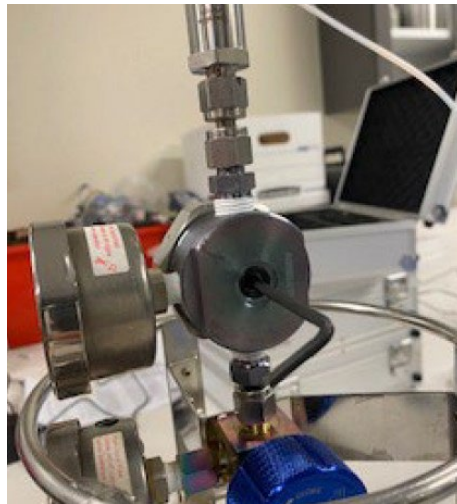

Figure 15. Adjusting the Flow on a Regulator
4.4.2.4 If the flow is not within this range, the flow needs to be adjusted, to do this you will need to look on the back side of the regulator. Take the cap off with an Allen wrench. Once the cap is removed you can adjust the flow with the same Allen wrench you used to take the cap off. If you turn the Allen wrench clockwise you will decrease the flow (Figure 15).